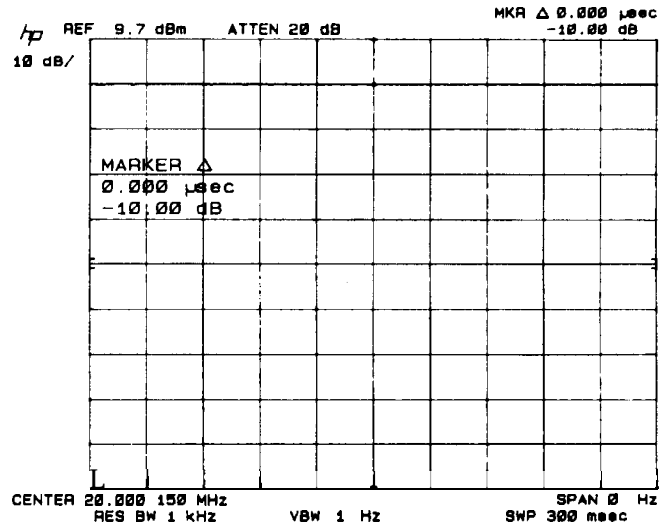

Figure 2-22. Amplitude Fidelity Measurement
6. Press **MARKER A**. Step the frequency synthesizer output amplitude from + 10 dBm to -80 dBm in 10 dB steps, noting the **MARKER A** amplitude (a negative value) at each step and recording it in column 2 of **Table 2-16**. Allow several sweeps after each step for the video filtered trace to reach its final amplitude (see Figure 2-22).